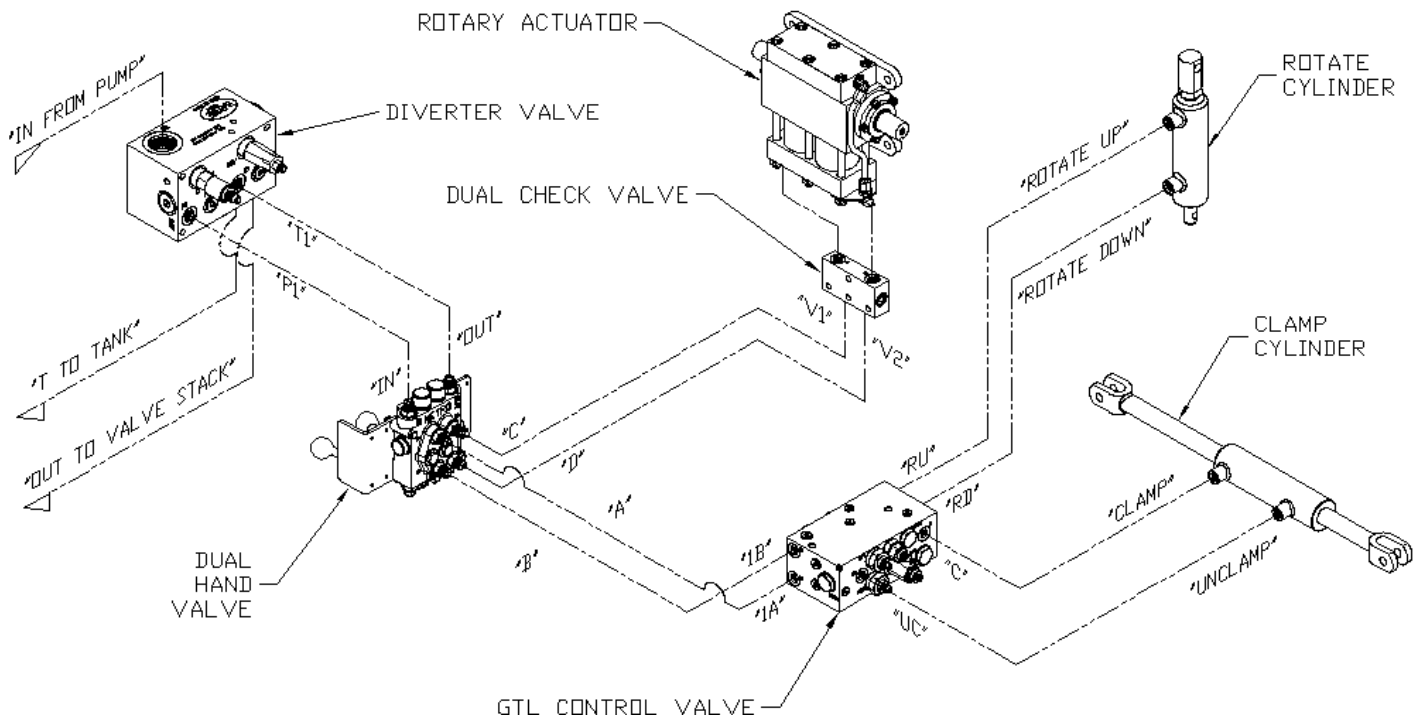

figure I-2
*Before attempting any hydraulic connections, turn the truck’s engine off and release all pressure from the hydraulic system. Refer to the hydraulic layout (figure I-2 ) and hydraulic schematic ( Appendix A ) while performing the following steps. Always clean & lubricate fitting threads before installation.*